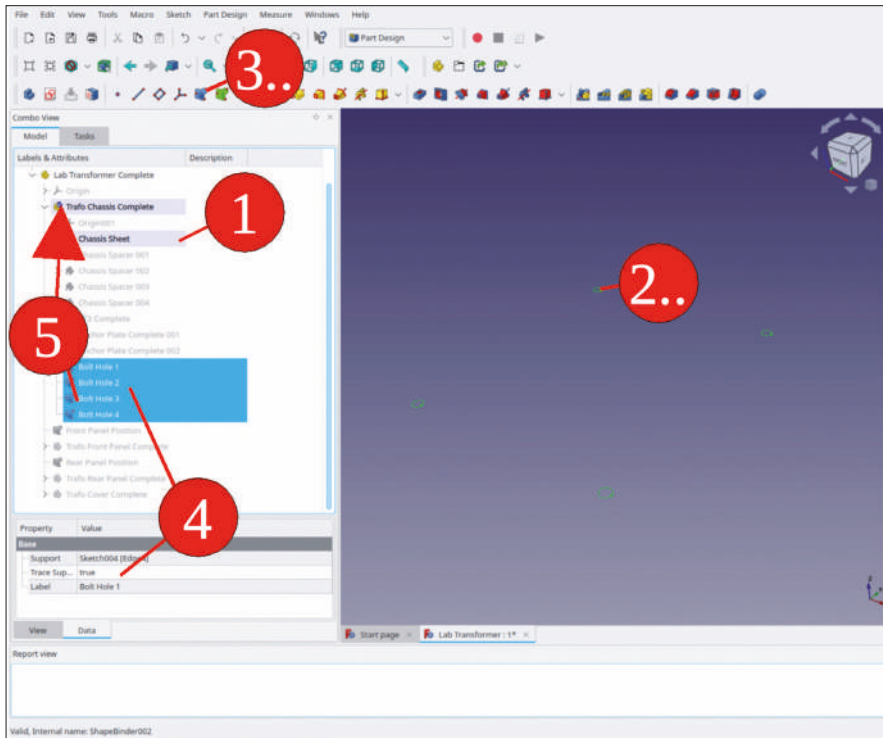

Figure 9-148
5. Drag-and-drop the four new shape binders into the Std-Part-Container 'Trafo Chassis Complete' (Figure 9-148). Display the objects 'Chassis Spacer 001', 'Chassis Spacer 002' and the tip in 'Chassis Sheet' body again, with the SPACE key.